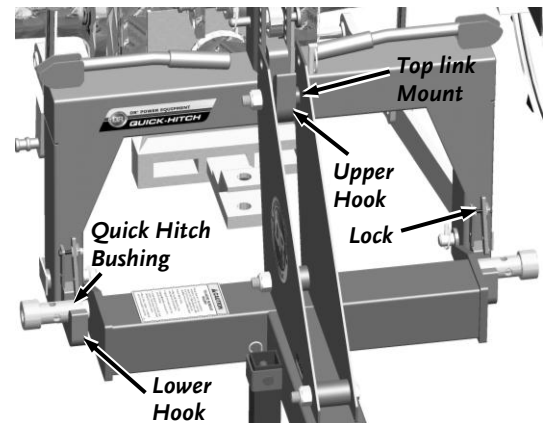

Figure 8
4. Gradually raise the Lift Arms until the Lower Hook Locks lock on to the Bushings and the Upper Hook has captured the Top link Mount (**Figure 8**).
7. Gradually raise the Lift Arms until the Lower Hook Locks lock on to the Bushings(**Figure 8**). Do not raise the Implement off the ground.